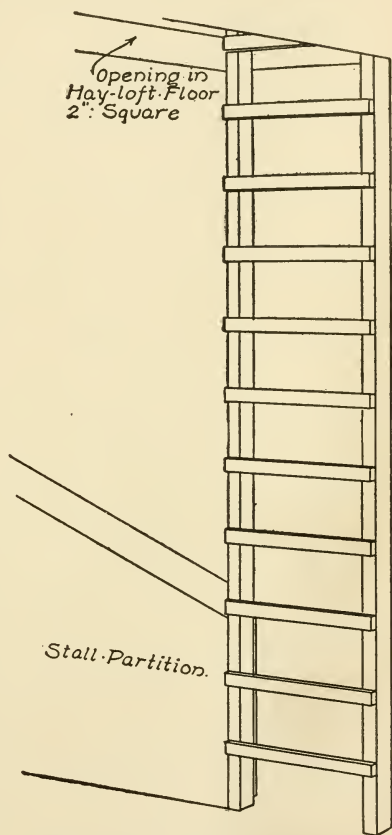

FIG. 118.—Ladder to Hay-loft.
Figure 118 shows the construction of
**A Ladder** to the hay-loft. This is made out of two sticks twelve inches long, with strips of cigar-boxes two inches long glued to them half an inch apart, as shown in the drawing. Cut away a section of the hay-loft floor two inches square and stick the end of the ladder up through the opening, fastening the uprights to the edge of the floor (see Fig. 118).